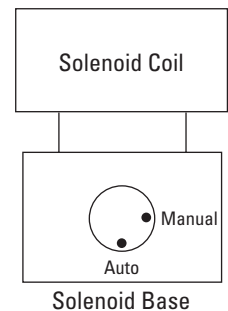

FIGURE 13 - Solenoid manual override
- All backflush valves can be operated manually. A manual override knob is installed on the base of all non-latching solenoids. See Figure 13.